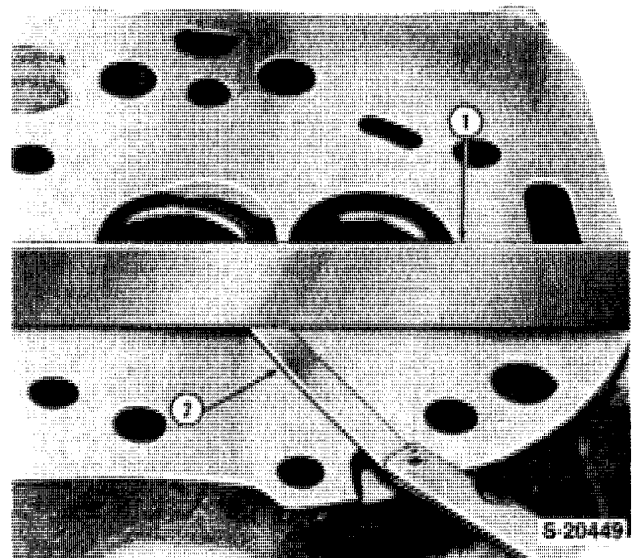

Figure 10
3. Use a straight edge to check the flatness of the cylinder head in all directions, Figure 10. For flatness requirement see "Specifications," Chapter 3.